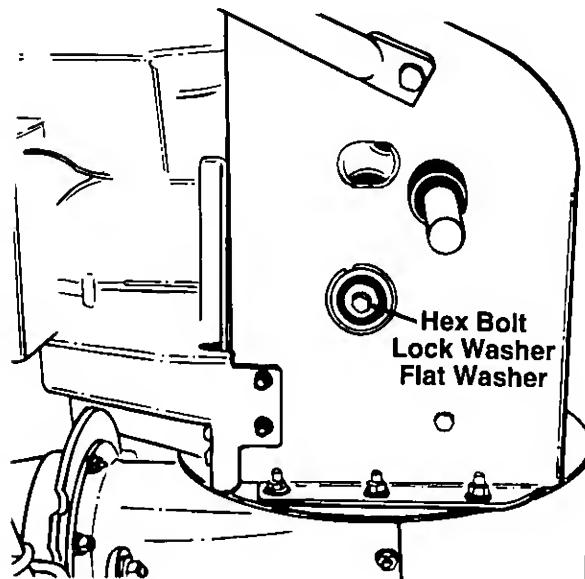

FIGURE 21.
5. Remove the gear shaft from the unit by removing the bolts, lock washers and flat washers from each side of the frame. See figure 21. Hold the friction wheel assembly, and slide the gear shaft out of the unit toward the right hand side. Refer to figure 14.